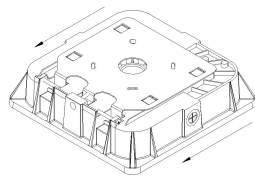

Figure 3
- Slide the mounting plate toward Screw A, and then remove it from the luminaire body (see Figures 3 & 4).